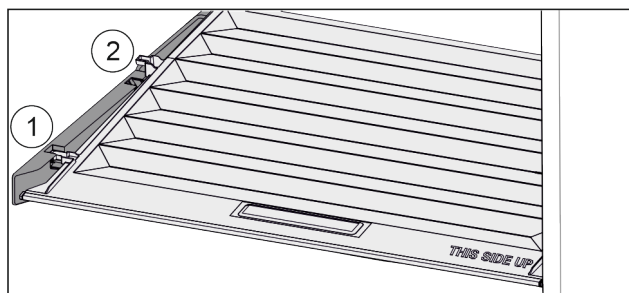

Fig. 40
- ▶ Pull the lid up at the front in the retaining parts to the opening Fig. 40 (1).
- ▶ Lift from the back and pull it up and out Fig. 40 (2).